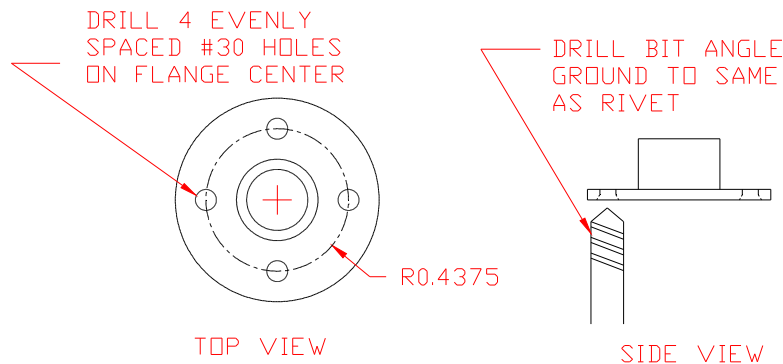

Figure 7.1.1
- 2) Drill and countersink four #30 holes in six Brass Bushings (AIL-27). **NOTE:** A 1/2" drill bit ground to the proper angle works well for countersinking the holes. Figure 7.1.1.